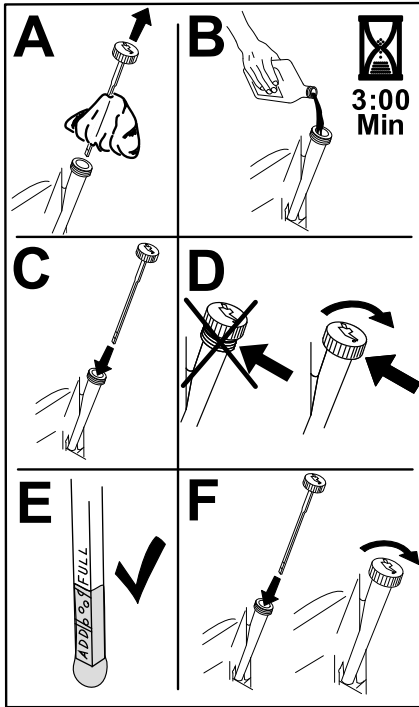

Figure 36
- Slowly pour approximately 80% of the specified oil into the filler tube and slowly add the additional oil to bring it to the **Full** mark (Figure 36).